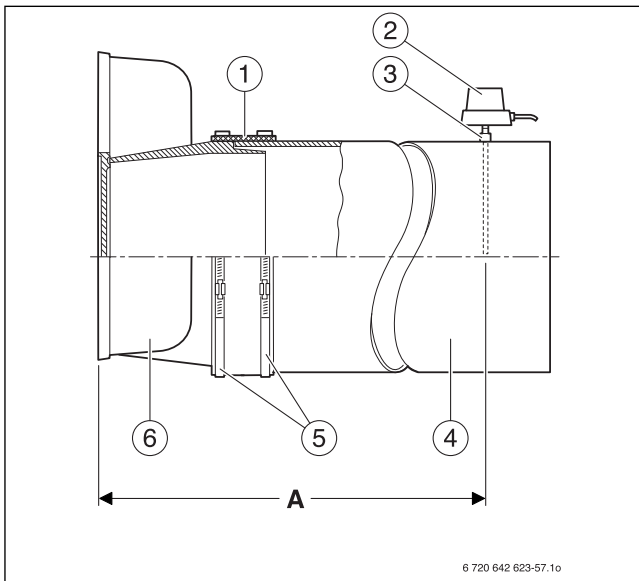

Fig. 59 Installing the vent pipe
We recommend you use a vent pipe sealing collar (→ Fig. 59, [1]).
- ▶ Push the vent pipe (→ Fig. 59, [4]) as far as possible onto the draft diverter outlet (→ Fig. 59, [6]).
- ▶ Place the vent pipe sealing collar (→ Fig. 59, [1]) around the vent pipe (→ Fig. 59, [4]) and draft diverter (→ Fig. 59, [6]) outlet so that it overlaps at the top.
- ▶ Place hose clamps (→ Fig. 59, [5]) over the vent pipe sealing collar (→ Fig. 59, [1]). One of the hose clamps (→ Fig. 59, [5]) must press onto the draft diverter outlet (→ Fig. 59, [6]) and one onto the vent pipe (→ Fig. 59, [4]).
- ▶ Tighten hose clamps (→ Fig. 59, [5]). The vent pipe sealing collar (→ Fig. 59, [1]) must fit smoothly and firmly in place.
- ▶ Weld a sleeve (→ Fig. 59, [3]) at a distance of $2 \times$ vent pipe diameters (A) from the draft diverter (→ Fig. 59, [6]) in the vent pipe (→ Fig. 59, [4]).
- ▶ Fit the flue gas temperature sensor (→ Fig. 59, [2]) as described in the separate installation manual.